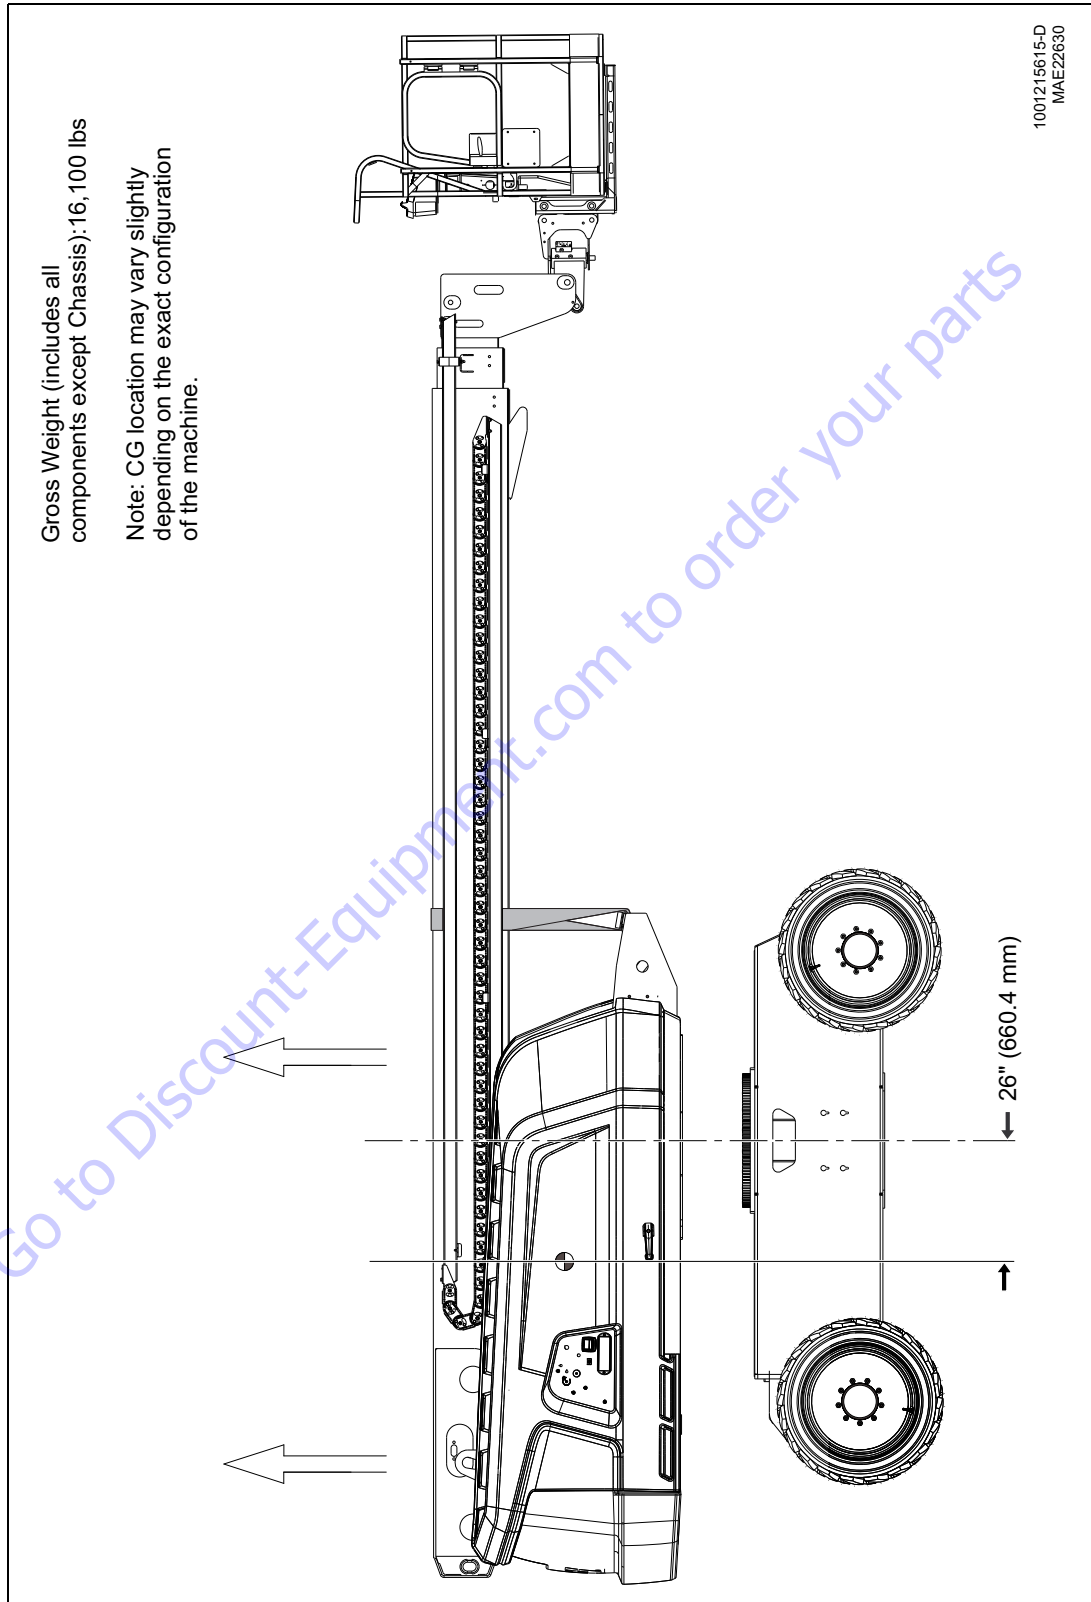
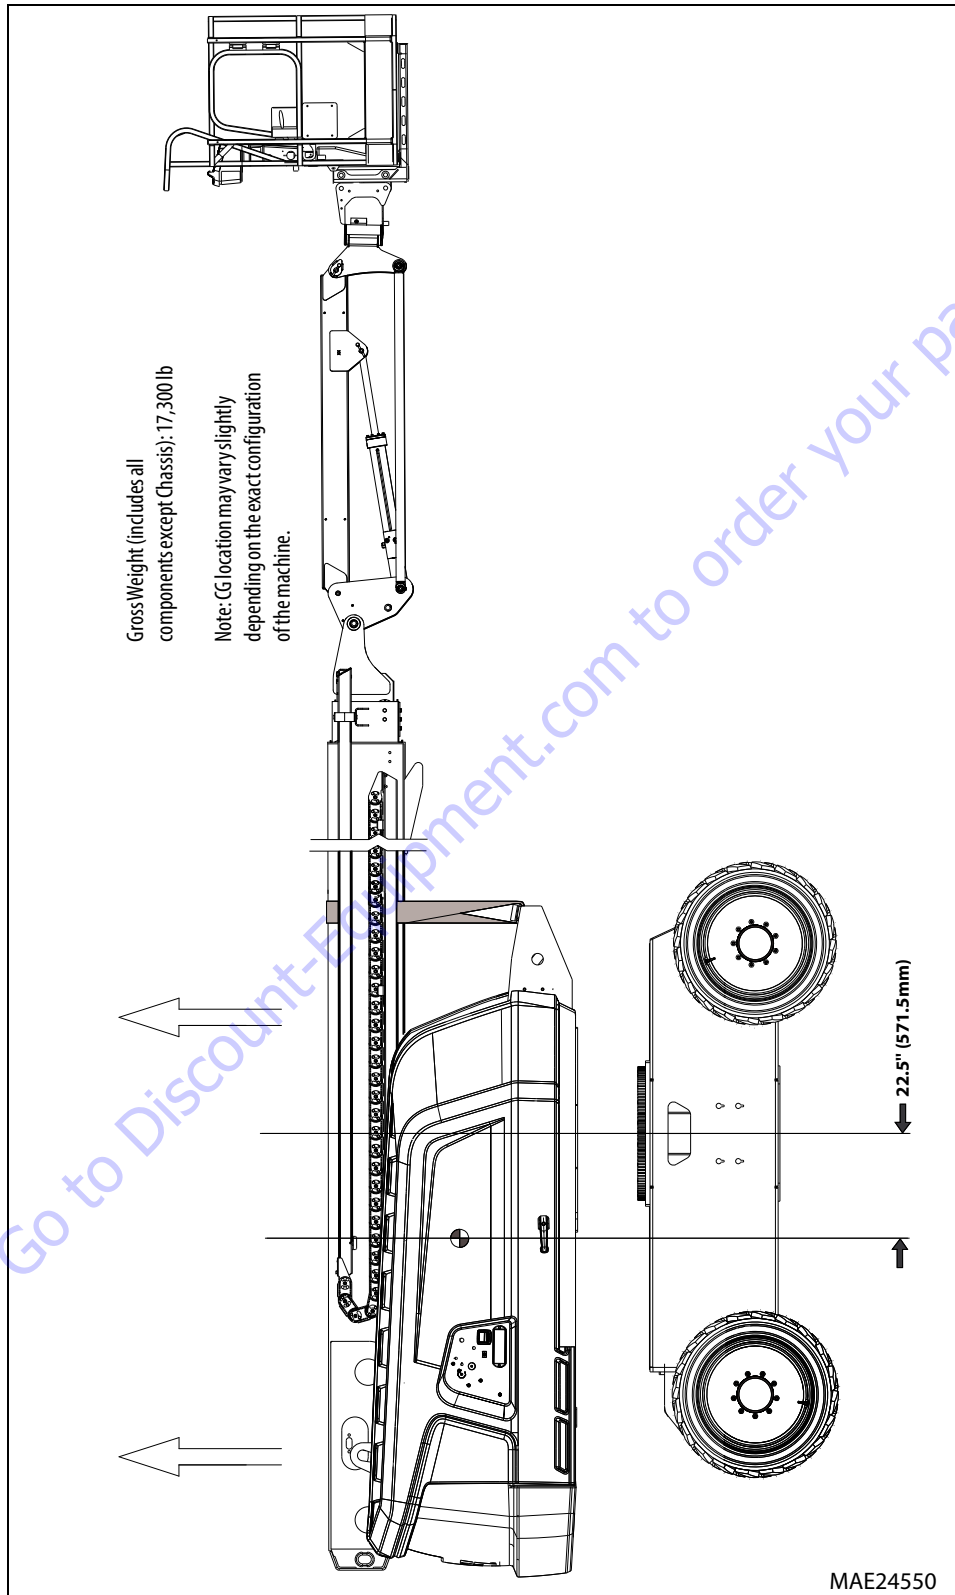

Figure 3-14. Swing Bearing Removal - 600S
Figure 3-15. Swing Bearing Removal - 660SJ
2. Adequately secure the boom to the rear of the turntable, as shown in Figure 3-14., Swing Bearing Removal - 600S and Figure 3-15., Swing Bearing Removal - 660SJ.
3. Using the front lifting eyes in the turntable and a location on the boom equidistant from the center of gravity, as shown in Figure 3-14., Swing Bearing Removal - 600S and Figure 3-15., Swing Bearing Removal - 660SJ, secure the turntable assembly with adequate lifting equipment.